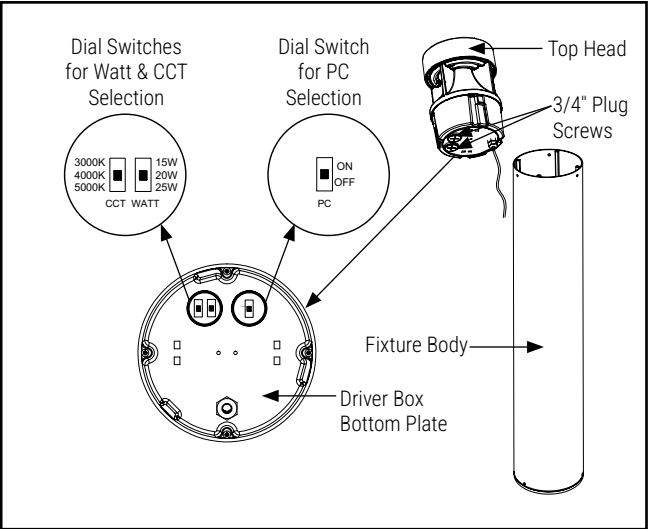

Figure 4.
4. Remove the two 3/4" plug screws, and select desired wattage & CCT, select desired PC on/off, through the dial switch on the driver box bottom plate. Fig. 4 (Factory default setting:25W,4000K,ON)